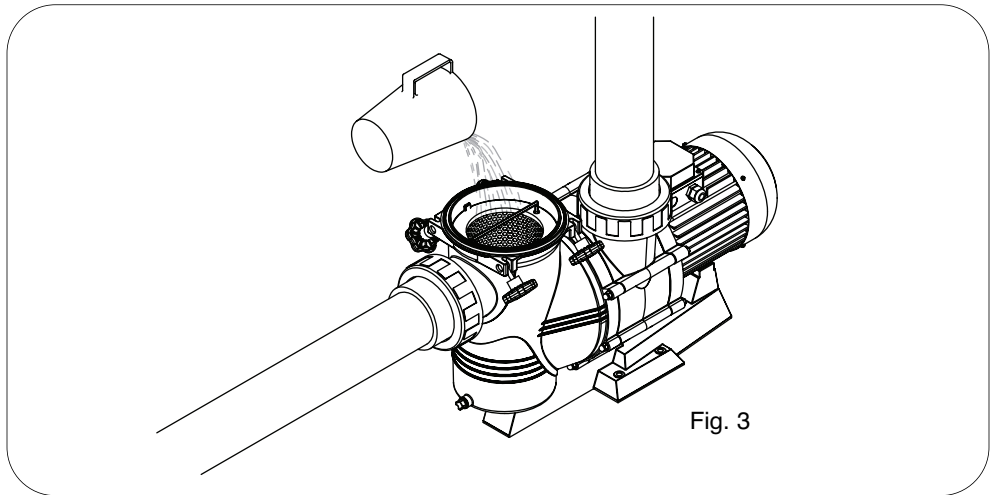

Fig. 3
- For a correct operation, the pump must be primed until water rises from the suction tube.(Fig.3)
- The pumps should never work without having been filled with water beforehand as, otherwise, this could cause a damage to the mechanical seal and eventually producing a water leak. (Fig.3)